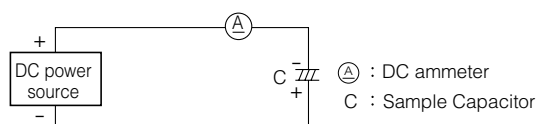

Fig. 2-6
- (1) For the circuit shown in Fig.2-6, DC current is selected from Table 2-2 according to the nominal diameter of the capacitor to be tested.